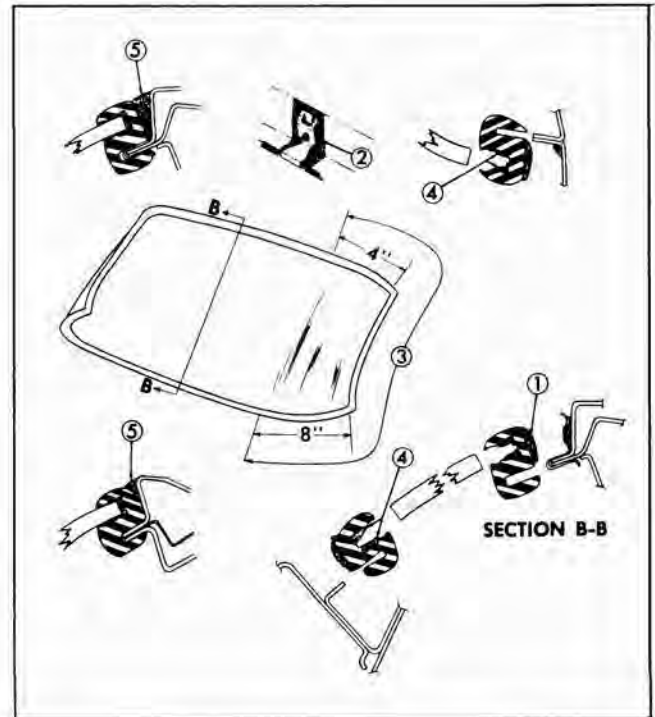

Fig. 2-10 Windshield Sealing
4. Apply a ribbon of medium-bodied sealer completely around base of rubber channel (See #1 Fig. 2-10).
5. Inspect condition of each molding clip, install new clips where necessary, make certain clips are properly sealed to pinchweld and body (see #2 Fig. 2-10) except 67 styles.
9. Using a pressure type applicator, seal inner and outer lips of rubber channel to glass with an approved weatherstrip adhesive (#4 Fig. 2-10). Seals are to extend completely around rubber channel.
11. On outside of windshield apply medium-bodied sealer between windshield rubber channel and opening across top and sides (#5 Fig. 2-10).
5. Using a pressure type applicator, seal inner and outer lips of rubber channel to glass with an approved weatherstrip adhesive (#4 Fig. 2-10). Seals are to extend completely around rubber channel.
6. On outside of windshield, apply medium-bodied sealer between windshield rubber channel and opening across top and sides (#5 Fig. 2-10).